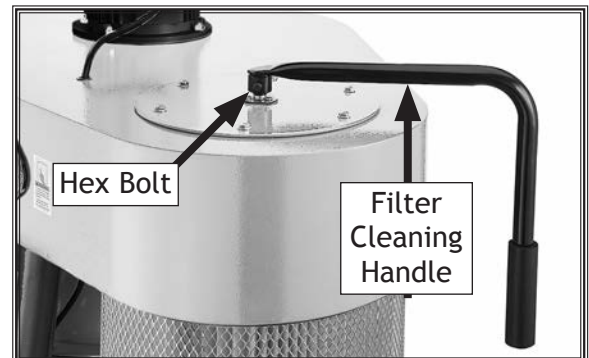

Figure 61. Filter cleaning handle hex bolt.
3. Loosen M6-1 x 16 hex bolt on filter cleaning handle, then remove handle (see **Figure 61**).